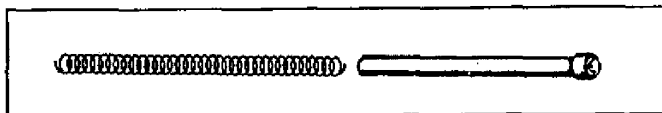

Figure 071-004-0001-6. Recoil spring and spring guide
- e. Insert the end of the recoil spring and the recoil spring guide into the recoil spring housing. At the same time, compress the recoil spring and lower the spring guide until it is fully seated on the locking block cutaway (figure 071-004-0001-7).